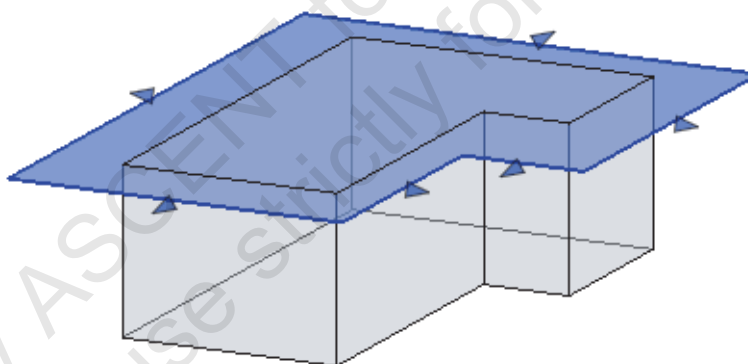

Figure 1–90
- After you have created a roof by face, you can use shape handles to modify the overhang of the roof, as shown in Figure 1–90.